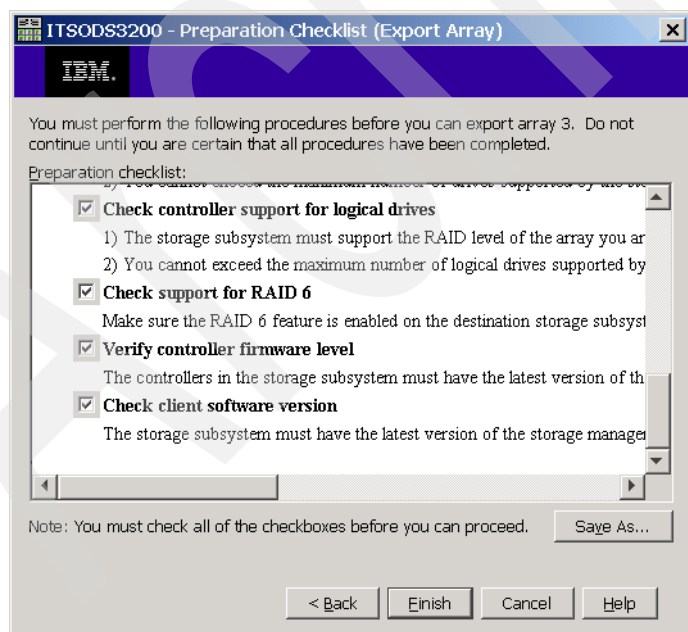

Figure 14-53 Export array - checklist
5. All the previously mentioned requirements for export of an array (steps 2 and 3) must be confirmed by selecting all check boxes in the Preparation Checklist window (Figure 14-53), and then clicking **Finish**.